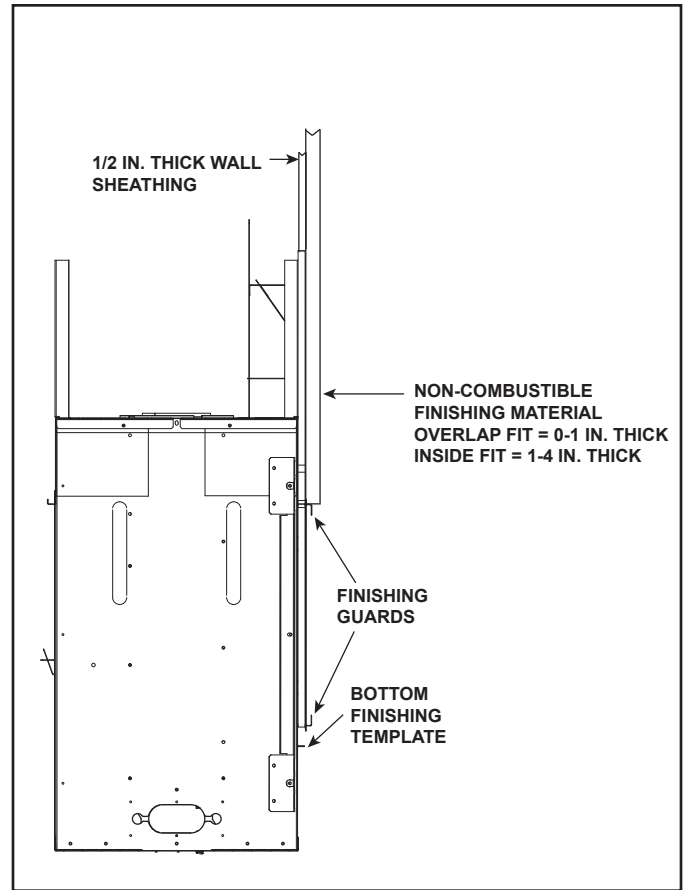
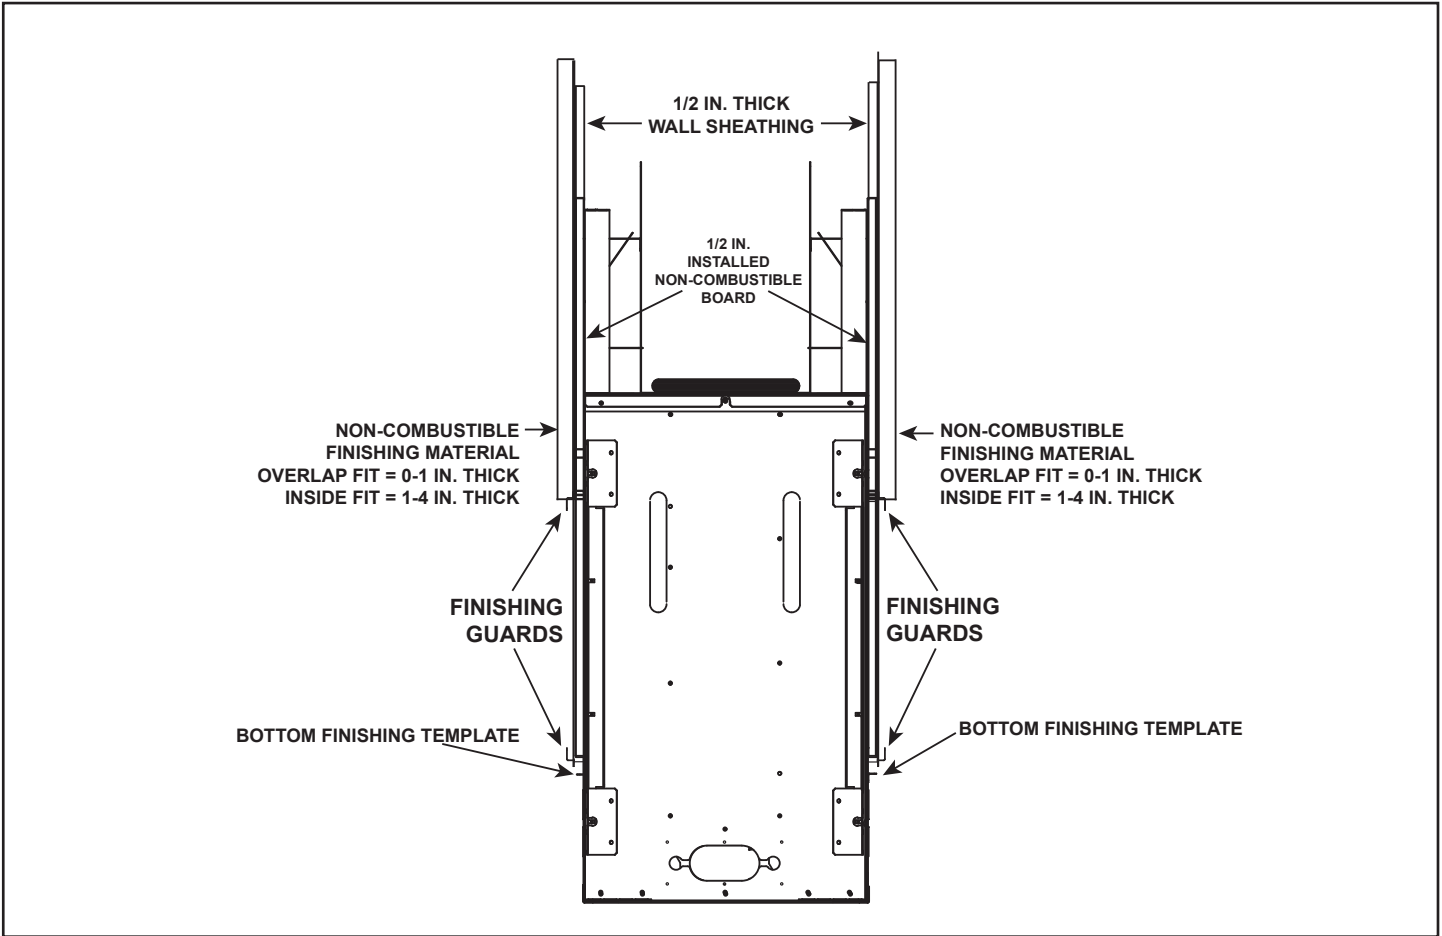

Figure 10.2 Finishing and Facing Materials - Single-Sided Models
Figure 10.3 Finishing Materials - See-Through Models
Decorative facing material thickness is measured from the face of the installed non-combustible board. See Figure 10.2 and Figure 10.3.
The fronts for this appliance are compatible with non-combustible materials. See Figure 10.2 and Figure 10.3.
Installation of finishing materials can be accomplished by either the “overlap” or “inside-fit” method, depending on what type of decorative front is to be installed. See Figure 10.2 and 10.3. For an overlap fit option with the Echelon, the Picture Frame Front (PFF) is available. The Clean Face Trim Front (CFT) can be either an inside fit or an overlap fit. See Table 1.
1. Verify that factory-installed finishing guards are installed to ensure finishing material does not extend into the fireplace opening. See Figure 10.2 and 10.3.
1. Verify that factory-installed finishing guards are installed to ensure finishing material does not extend into the fireplace opening. See Figure 10.2 and Figure 10.3.